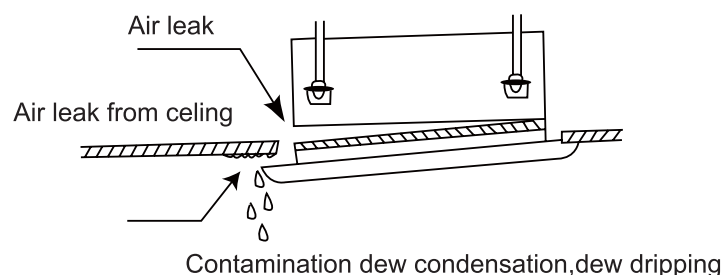

Figure 1-3-14
- Improper screwing of the screws may cause the troubles shown in Figure 1-3-14.